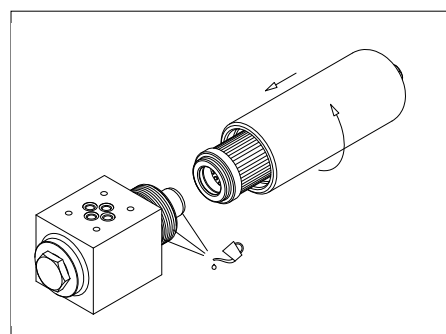

fig. 16
- (Fig. 16) Lubricate with the operating fluid the O-ring, the tap and the thread of the head, then fit the filter element on the tap